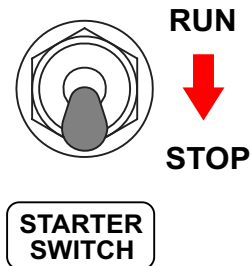

Figure 60. Starter Switch (STOP Position)
4. Place the starter switch (Figure 60) in the **STOP** position.
Place the starter switch (Figure 60) in the **STOP** position.